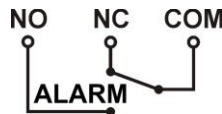

Fig. 4. Electrical diagram of the ALARM collective output of failure.
**CAUTION!** In Fig.4 the set of contacts shows a potential-free status of the relay, which corresponds to power supply failure.